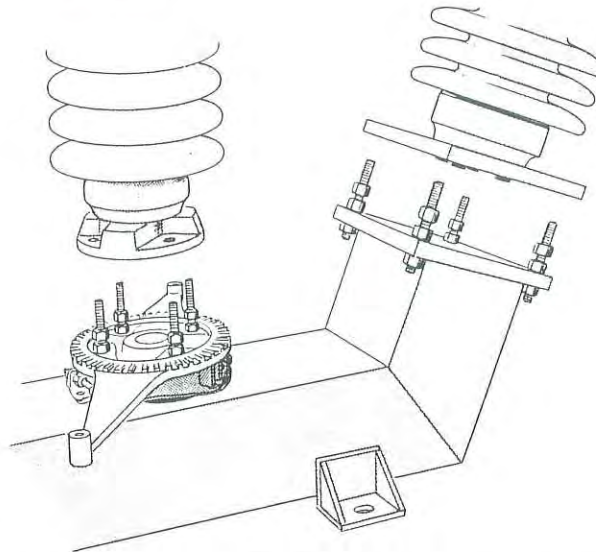

Figure 2 — Insulator mounting.
- Mount the insulators, beginning with the center stack, using the bolts specified in the field assembly bolt list. The easiest way to mount the insulators on these switches is to remove the top nuts from the jack screws that support the mounting adaptors, remove the mounting adaptors from the base, and bolt them directly to the bottom of the insulator stack. Then the entire stack can be lifted to the base and slipped down on the jack screw studs. (See Figure 2.)